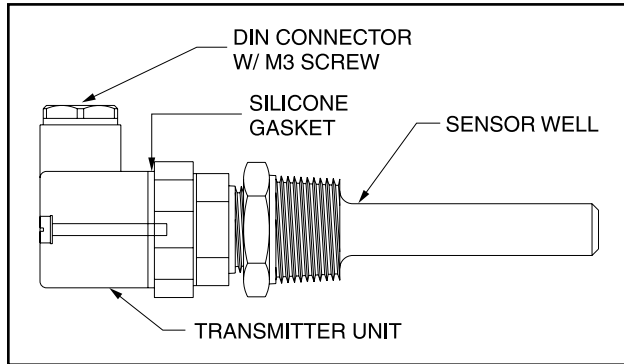

Figure 33 - Temperature Transmitter
2. Remove DIN connector plug from transmitter. See Figure 33.